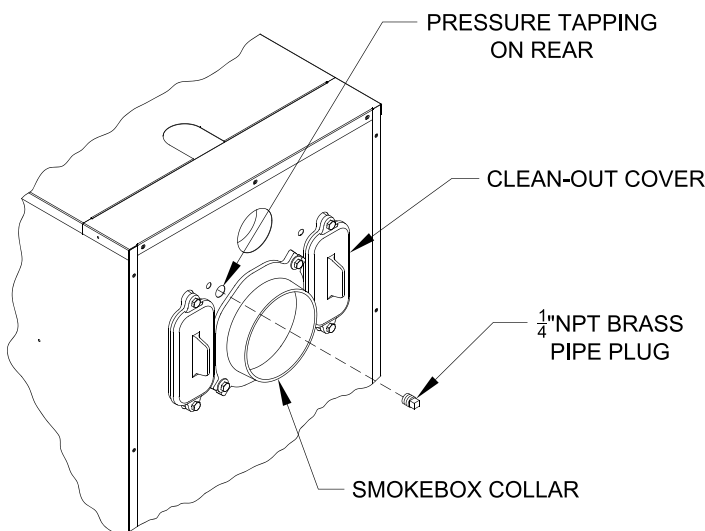

Figure 15: Smokebox Pressure Tapping for Checking Draft at Breech
2. Minimum Draft at Breech (Canopy) – The draft induced by a chimney must create at least a pressure of 0 (zero) inches water column (“w.c.”) at the pressure tapping on the canopy mounted on rear of boiler (see Figure 15). The pressure at the canopy **CANNOT** be positive since this could create a condition that allows flue gas by-products to escape from the draft regulator. A negative pressure reading up to -.03 inches water column is acceptable for proper operation (see Beckett AFG Burner Specifications, Table 9 at the end of this manual for more details).